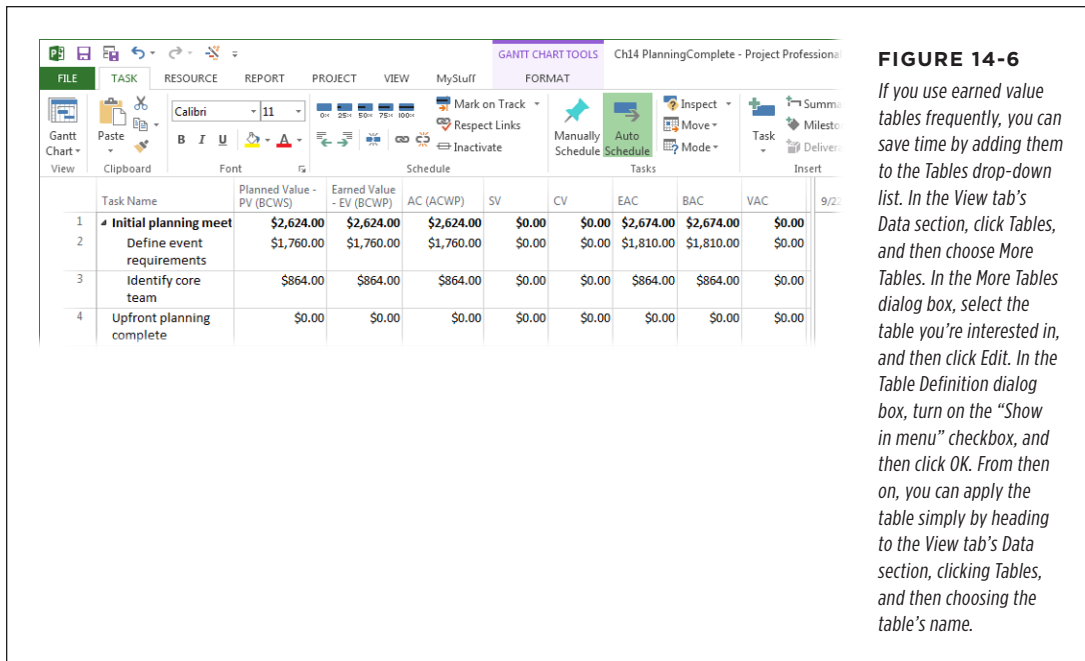

FIGURE 14-6
- **Earned Value table.** Apply this table, shown in Figure 14-6, to any task-oriented view (in the View tab's Data section, click Tables, and then choose More Tables. In the More Tables dialog box, double-click Earned Value). This table includes all the basic earned value fields: planned value (BCWS), earned value (BCWP), actual cost (ACWP), SV, CV, EAC, BAC, and VAC.